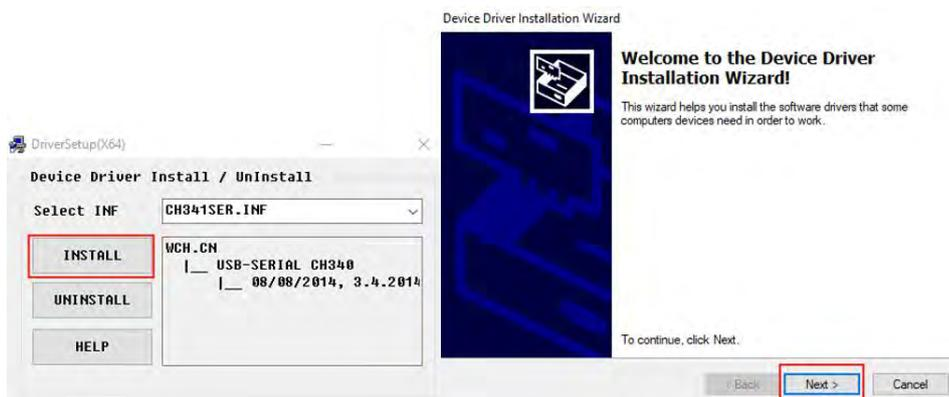

Figure 2.9 The Device Driver Installation Wizard dialog box
**Step 5** Click **OK** to follow the on-screen instructions to continue with the installation. During the installation, the Driver Installation dialog box is displayed, two drivers need to be installed, as shown in Figure 2.9.